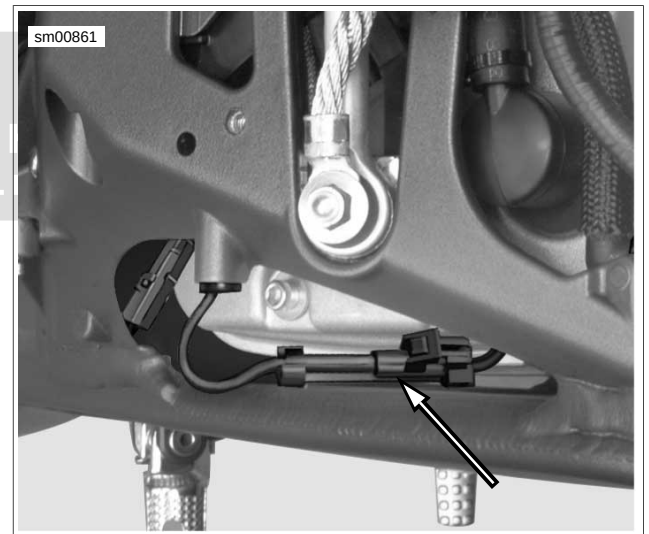

Figure 4-17. Engine Temperature Sensor Connector [90] (Typical)
6. See Figure 4-17. Disconnect engine temperature sensor connector [90] above rear cylinder head.
- 4. See Figure 4-17. Connect ET sensor connector [90] to wiring harness.